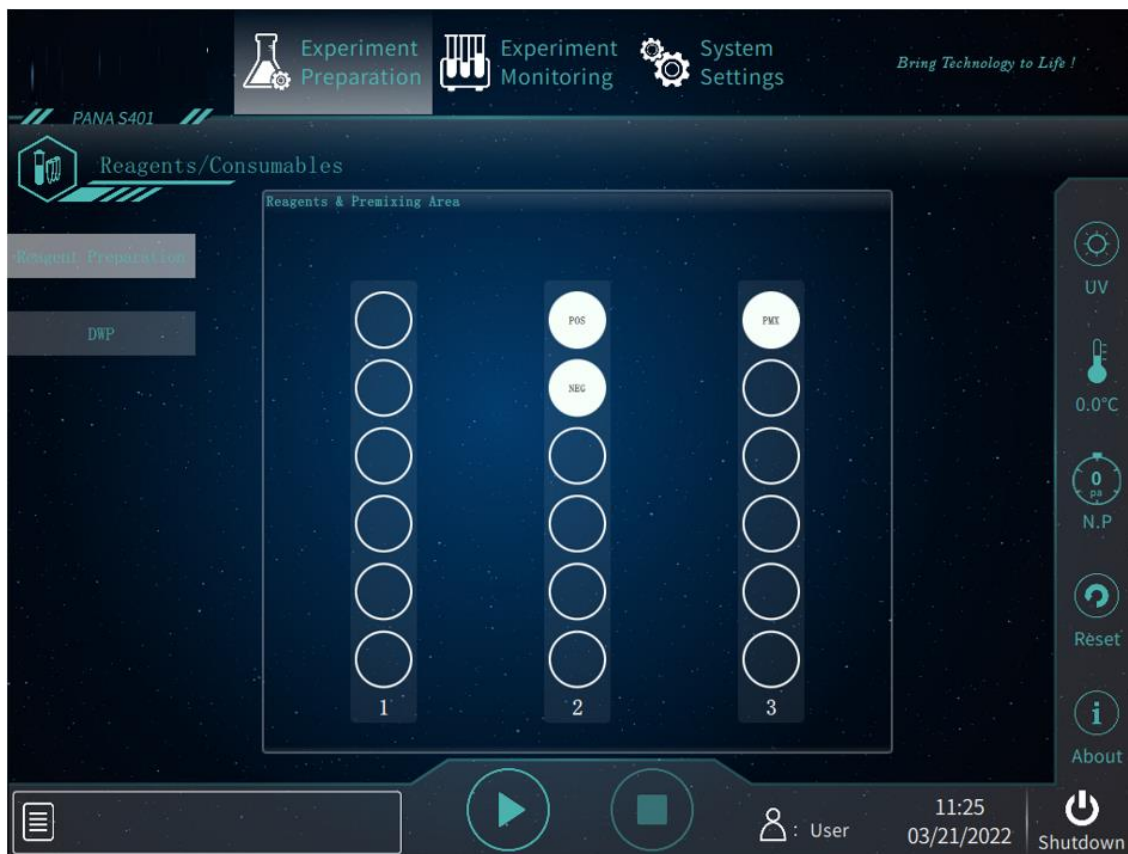

Figure 5-10. Experiment Preparation -Reagent/Consumables - Reagent Preparation
- ▶ < **Reagent Preparation** >: Handling System software can automatically analyze the requirement information of reagent and consumable according to the settings of < **Item** > and < **Samples** >. Please prepare the corresponding loading holder, reagent bottle, premix bottle and reagent group according to the prompts from the tab of reagent preparation, as shown in figure 5-10.